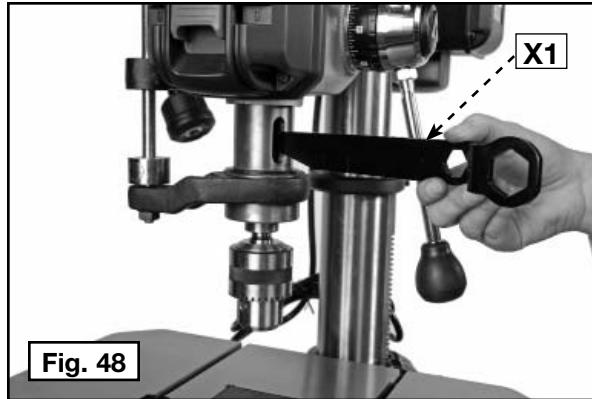

Fig. 48
2. Insert the drift key (X1) Fig. 48 through the slot in the quill and the slot in the spindle.
3. Tap the drift key (X1) Fig. 48 with a hammer until the the spindle adapter and chuck fall from the quill.